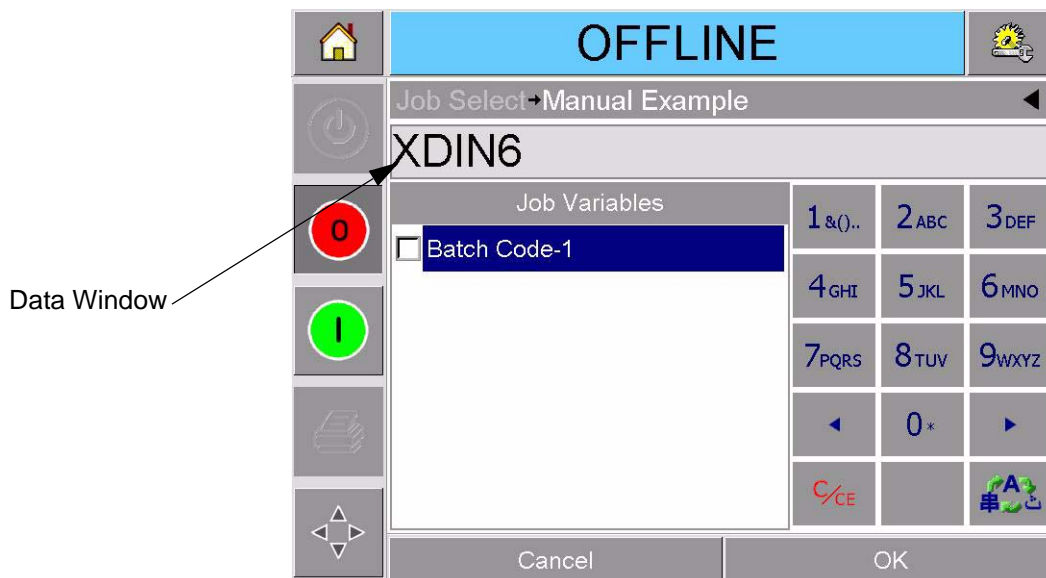

Figure 4-7: Default Data Window
- 1 Touch the required job variable from the list to select it (the first one in the list is automatically selected). The default data for that job variable appears in the data window (Figure 4-7 on page 4-6).